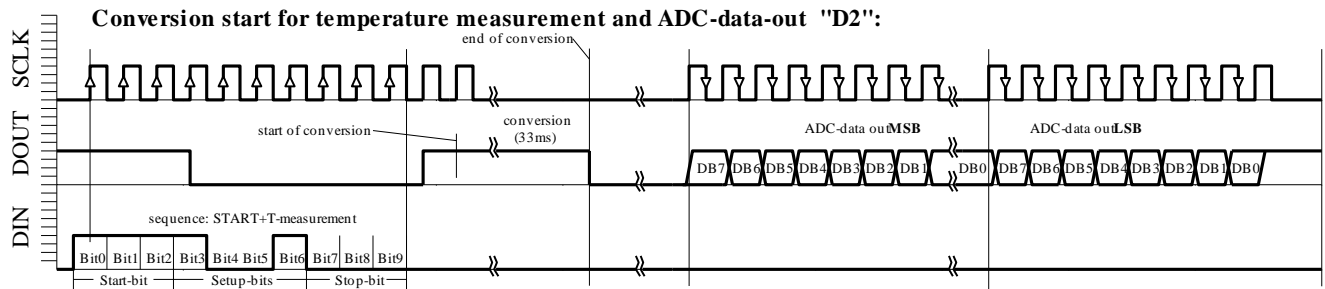

Fig. 6b: D2 ACQUISITION sequence
- ✦ Conversion start for temperature measurement and ADC-data-out "D2" (Figure 6b)